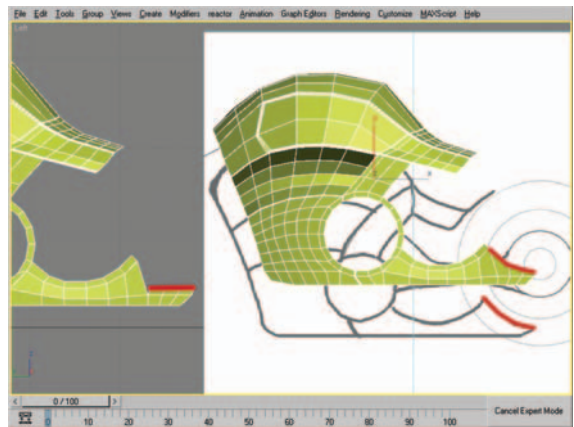

Figure 8.58 Edge selection (left) and mesh after moving edges and vertices to correspond to the blueprint (right).
59. With the three edges still selected (Figure 8.58, left), move them so they correspond to the shape seen in the blueprint (Figure 8.58, right).